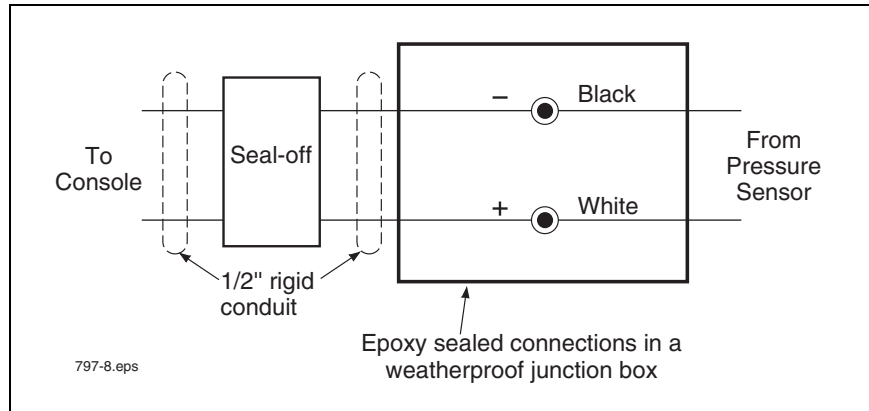

Figure 3. Field wiring Pressure Sensor - Observe Polarity
11. Route the cable from Pressure Sensor to the Pressure Sensor junction box in the dispenser. Observing polarity, connect the sensor wiring to the field wiring from console and cap with wire nuts (see Figure 3) - OR - terminate the wiring in the TLS RF transmitter (W2). In wireless installations, the wiring is not sealed and does not run back to the TLS console and Steps 12, 13 and 14 ARE NOT REQUIRED.